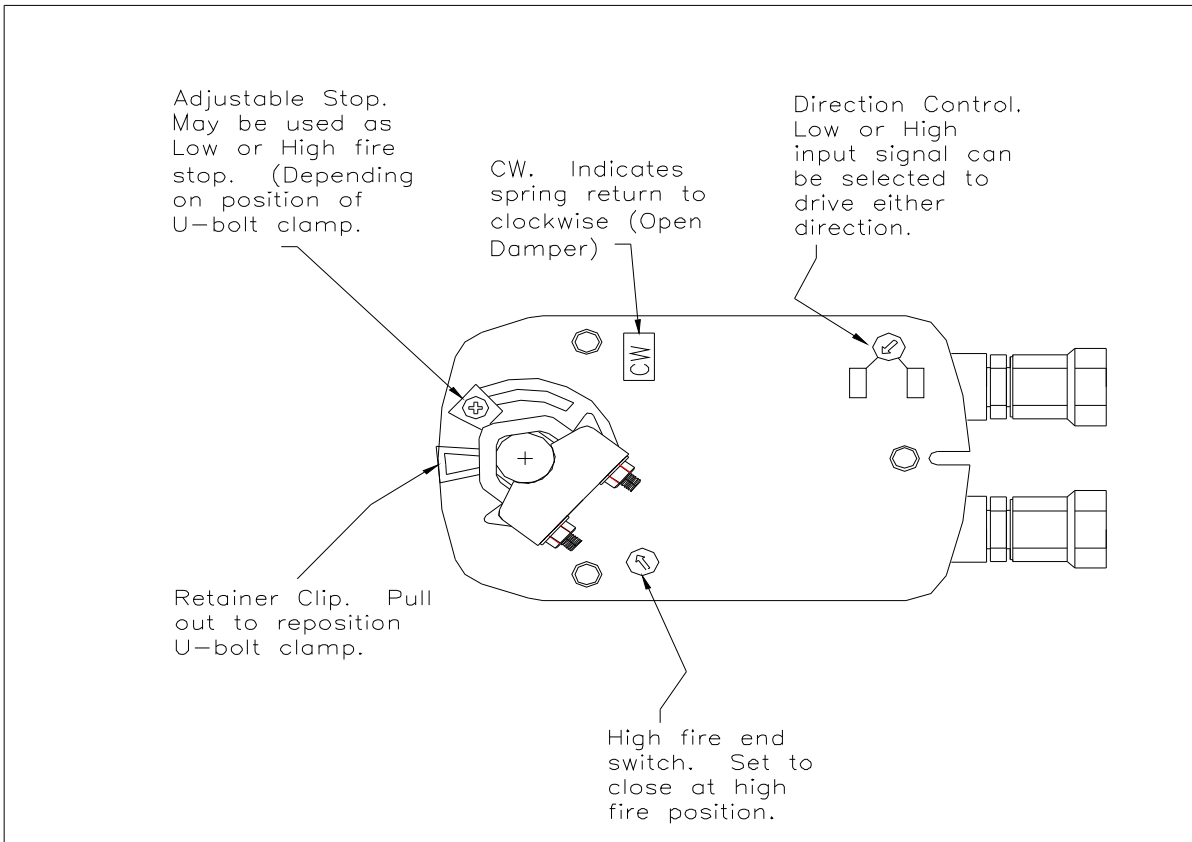

Figure 15: Belimo LF24-SR-S Actuator
- 11.8 Modulation of the burner is now accomplished by the control signal. Depending on the setting of the Direction Control Switch located on the actuator (Figure 15), a low or high input signal can drive the actuator clockwise or counterclockwise (low fire or high fire).
- 11.9 An adjustable stop located on the actuator (Figure 15), can be used to limit the high fire or low fire position. If the high fire damper position is changed due to a lower than maximum firing rate, the pilot should be rechecked at this new damper position.
- 11.17 Modulation of the burner is now accomplished by the control signal. Depending on the setting of the Direction Control Switch located on the actuator (Figure 15), a low or high input signal can drive the actuator clockwise or counterclockwise (low fire or high fire).
- 11.18 An adjustable stop located on the actuator (Figure 15), can be used to limit the high fire or low fire position. If the high fire damper position is changed due to a lower than maximum firing rate, the pilot should be rechecked at this new damper position.